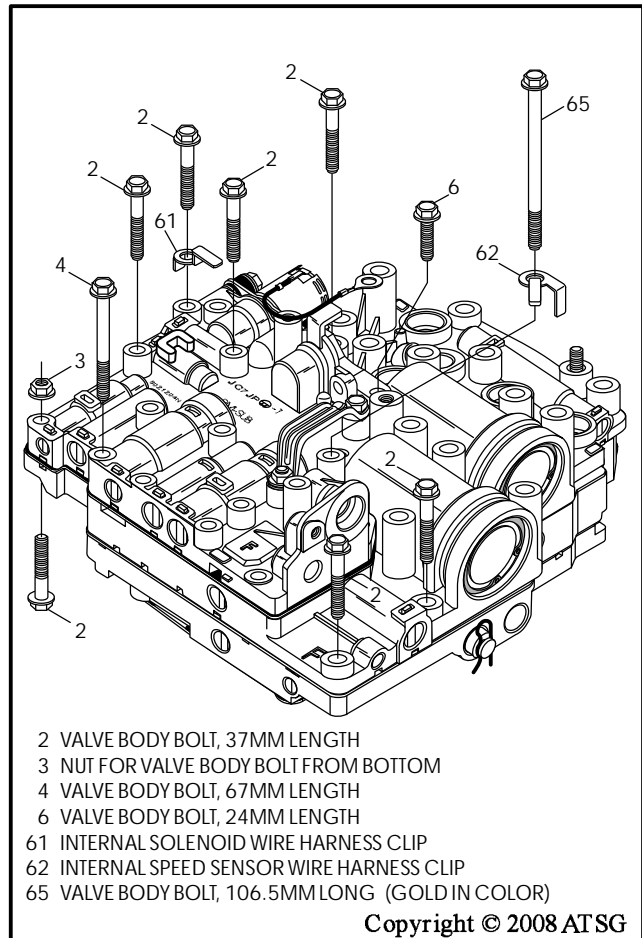

Figure 175
45. Install a 37mm bolt (2), from the bottom, in the lower left side of the valve body, as shown in Figure 175, install nut (3) and hand tighten only at this time.
46. Install six 37mm bolts (2), in locations shown in Figure 175, and hand tighten only.
**Note: One of these bolts has a internal wire harness retainer (61).**
47. Install one 24mm bolt (6), in location shown in Figure 175, and hand tighten only.
48. Install one 67mm bolt (4), in location shown Figure 175, and hand tighten only.
49. Install the 106.5mm bolt (65), along with the wire harness retainer (62), in location shown Figure 175, and hand tighten only.